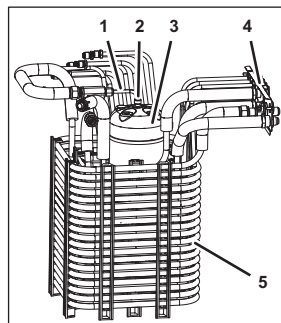

Figure 74
14. Lift the cooling coil basket (Figure 74/5) with connecting plate (Figure 74/4) and carbonator tank (Figure 74/3) out of the unit.
15. Disconnect the connecting line from the non-return valve of the solenoid valve (Figure 74/1) to the carbonator tank (Figure 74/3) from the coupling (Figure 74/2).
18. Lift the carbonator tank (Figure 74/3) up and out of the cooling coil basket (Figure 74/5).
19. Position the new carbonator tank (Figure 74/3) within the cooling coil basket (Figure 74/5).
20. Attach the carbonator tank (Figure 74/3) to the cooling coil basket (Figure 74/5) using a cable tie.
21. Make sure the carbonator tank (Figure 74/3) is firmly placed against the cooling coils.
24. Attach the connecting line from the non-return valve of the solenoid valve (Figure 74/1) to the carbonator tank (Figure 74/3) to the coupling (Figure 74/2).
25. Position the cooling coil basket (Figure 74/5) with connecting plate (Figure 74/4) and carbonator tank (Figure 74/3) within the unit.